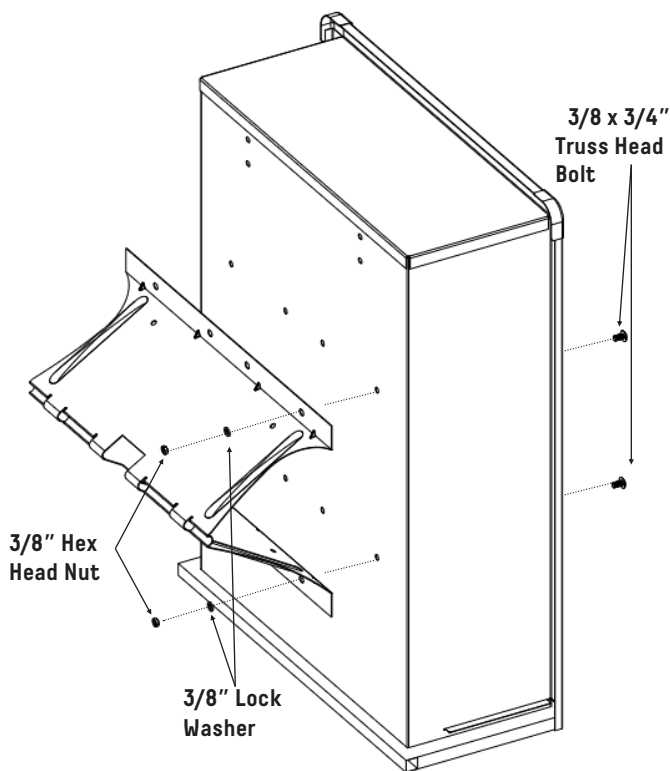

Figure 1.
1. Attach Undercarriage Axle Support to the bottom of the Body. Use 12 3/8 x 3/4" Truss Head Bolts, 3/8" Lock Washers, and secure with 3/8" Hex Head Nuts. See Figure 1.